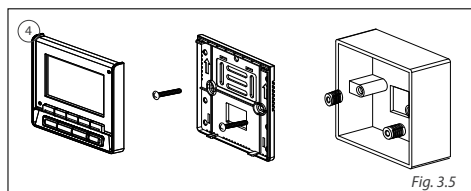

Fig. 3.5
6. Fix the bottom cover to the electric cabinet by the accessory slotted head screws. Confirm the bottom cover is parallel to wall surface. And then reinstall the bottom cover to centralized controller. (See fig 3-5)